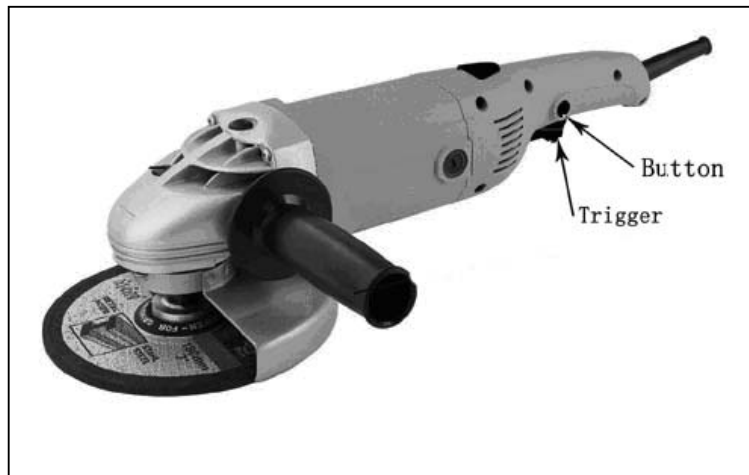

Figure 5
- 1) When starting hold the tool firmly with both hands i.e. One hand on the motor housing and the other on the side auxiliary handle (1).
- 2) Start the tool by pressing trigger inwards, then the tool is energized and starts to operate. (See figure 5)
- 1) When starting hold the tool firmly with both hands i.e. one hand on the motor housing and the other on the side auxiliary handle (1).
- 2) Start the tool by pressing trigger inwards, and then press the lock button at side to lock the tool at “on” condition. In this condition, the tool will operate continuously without pressing the trigger all the time (See figure 5)